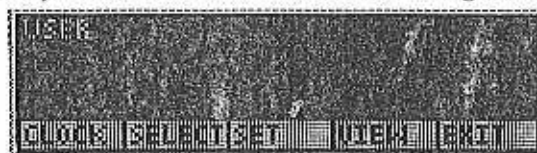
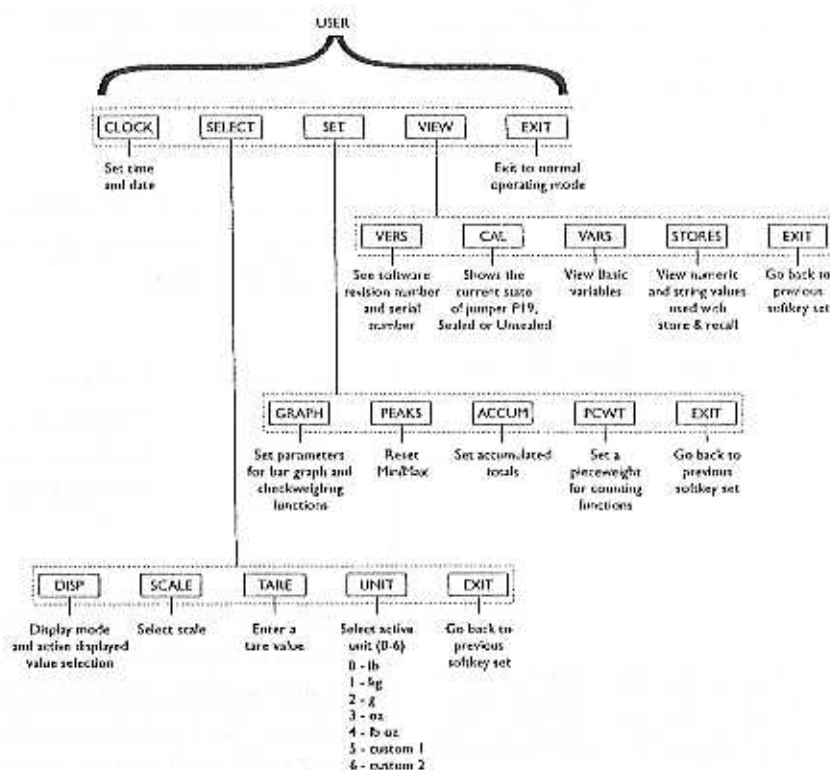

Figure 3
Figure 4
Key in 111 and press **ENTER**. . . the screen in Figure 3 is displayed.
Figure 4 is a flowchart showing what soft keys or choices appear as you press the soft keys shown in Figure 3.
2. Repeat step 1 for minutes, seconds, year, month, day, and day of the week (1=Sunday, 2=Monday, etc.). . . Display returns to display shown in Figure 3.